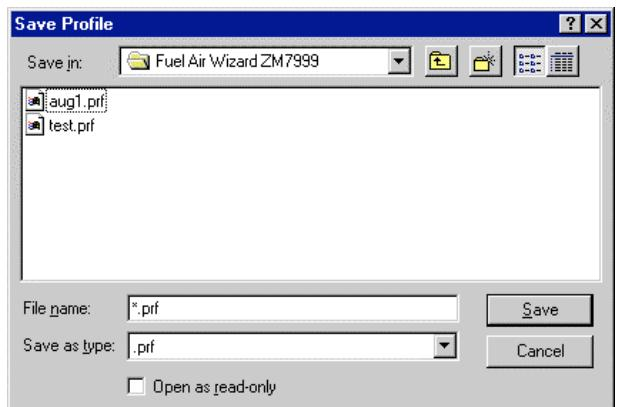

Fig. 20. Save Profile Screen.
- Save the profile you created to a file on your PC or disc for reference or future use. Fig. 20 through 31 illustrate creating the profile curve.
- Save Profile—Press this button to save the curve you have created to a file on your PC or disc. When you press the button, a *File search* window opens and you can navigate to the directory you want to save the file in (Fig. 20). Use a descriptive filename for the file. The extension (.prf) is automatically added when you press *Save* to save the profile.